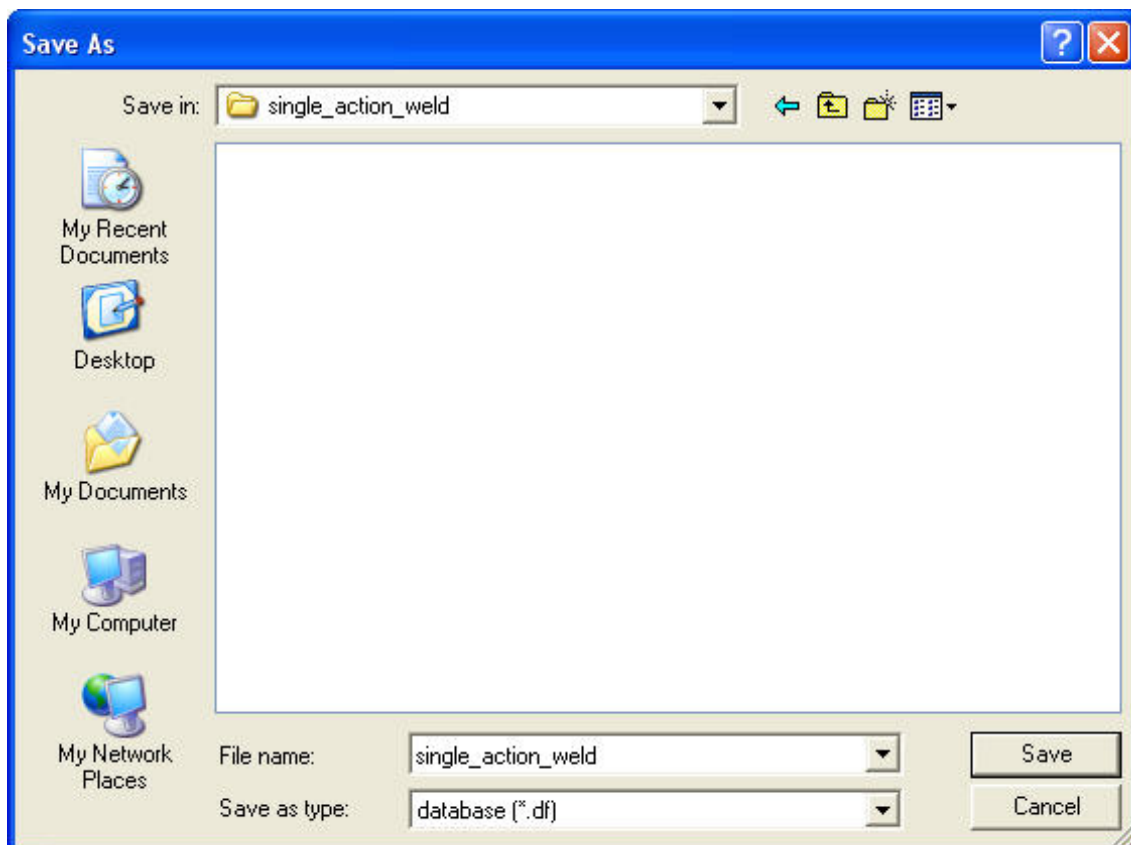

Figure 5.3 Save As dialog box
1. Click **Save** icon from the **Icon bar** to pop up SAVE AS dialog box illustrated in Figure 5.3.
Prior to entering **AUTOSETUP** interface, upper/lower tool meshes are required. The other operation can be carried out in AutoSetup interface, such as **PHYSICAL OFFSET** of element, selection of **CONTACT OFFSET**. As illustrated in Figure 5.3, you can select **AUTOSETUP** option from the **SETUP** menu to display the **AUTOSETUP** interface.